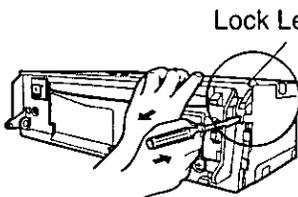

Fig. 1
- b) Remove Trim Plate ⑩ with a screwdriver as shown in the figure.
- c) Pull out the unit while pushing the two lock levers using the screwdriver. (→ Fig. 1, 2)